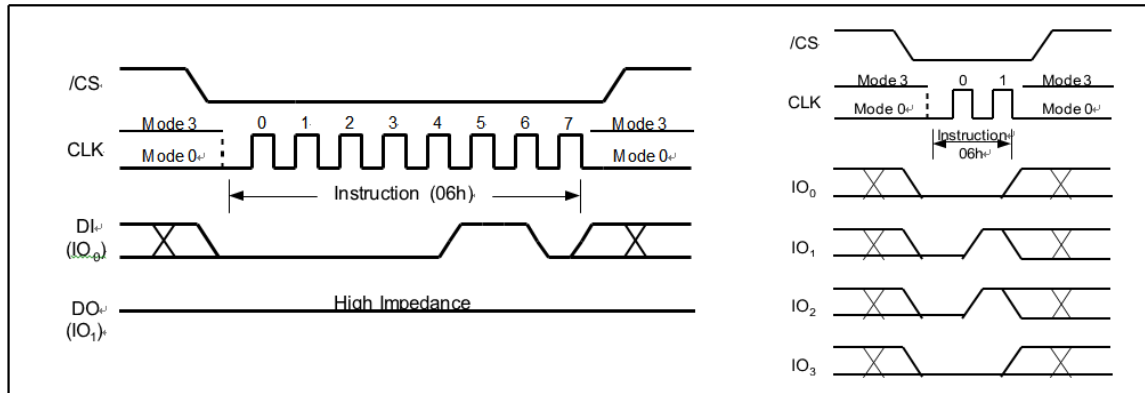

Figure 6. Write Enable Instruction for SPI Mode (left) or QPI Mode (right)
The Write Enable instruction (Figure 6) sets the Write Enable Latch (WEL) bit in the Status Register to a 1. The WEL bit must be set prior to every Page Program, Quad Page Program, Sector Erase, Block Erase, Chip Erase, Write Status Register and Erase/Program Security Registers instruction. The Write Enable instruction is entered by driving /CS low, shifting the instruction code “06h” into the Data Input (DI) pin on the rising edge of CLK, and then driving /CS high.